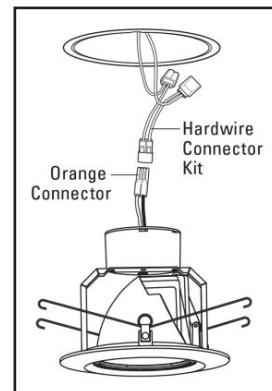

Figure 7
3. Remove the socket adapter from the box. Cut both adapter wires close to the socket adapter and away from the orange connector, and discard the socket. Remove the (2) red splice-connectors from the hardwire kit bag. Pair the housing and orange connector wires by color into each red connector. Firmly squeeze the metal U-shaped insert into the wires. Flip the cover closed to secure and insulate the connection. (See Figure 7)